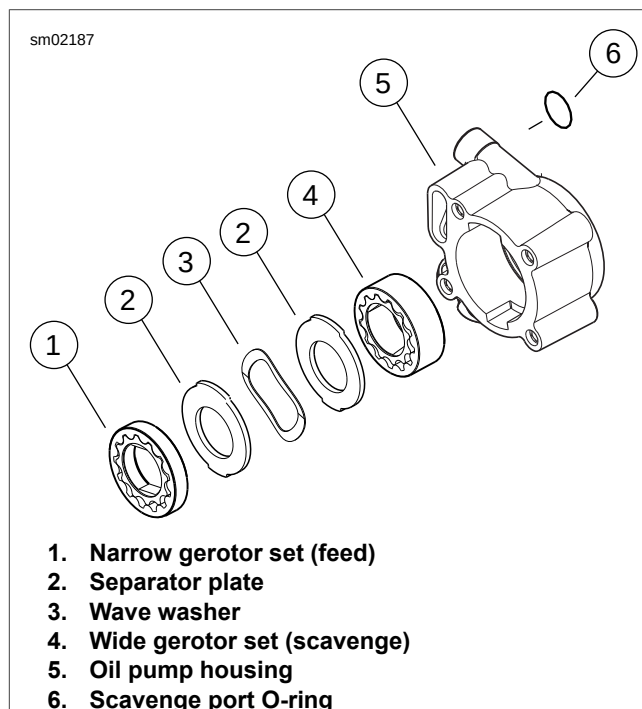

Figure 3-119. Assembling Oil Pump
5. See Figure 3-119. Disassemble and inspect oil pump components.
8. See Figure 3-119. Assemble the oil pump.
1. See Figure 3-119. Apply a very thin film of SCREAMIN' EAGLE ASSEMBLY LUBE to **new** scavenge port stub O-ring (6). Install O-ring on scavenge port stub of oil pump housing.
2. Slide oil pump housing (5) onto crankshaft while fitting O-ring on scavenge port stub into crankcase bore.
3. Assemble the wide gerotor set (4). Install on the crankshaft until it bottoms in the oil pump housing.
4. Install inside separator plate (2) on the crankshaft until it contacts the wide gerotor set (4). Install wave washer (3) and outside separator plate (2).
5. Assemble the narrow gerotor set (1). Install on the crankshaft until it contacts the outside separator plate (2).